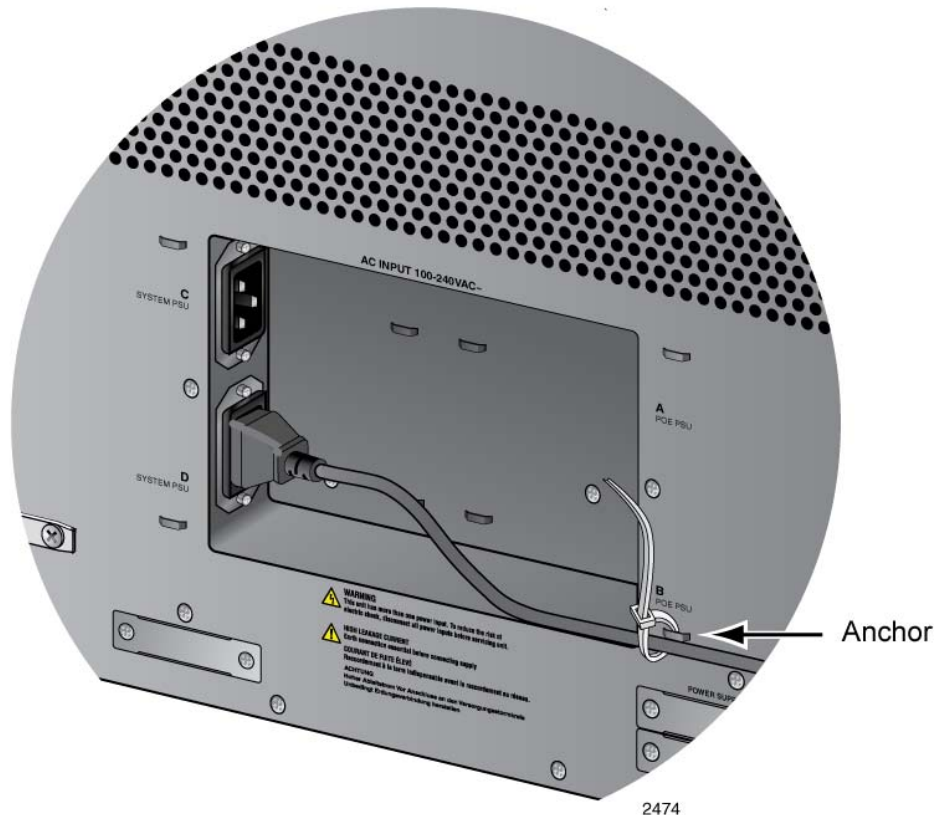

Figure 106. Securing the Power Cord for the AT-SBxPWRSYS1 or AT-SBxPWRSYS2 AC Power Supply to an Anchor
3. Use the twist tie included with the power supply to secure the cord to an anchor on the chassis to protect it from being accidentally pulled out, as shown in Figure 106 on page 176.